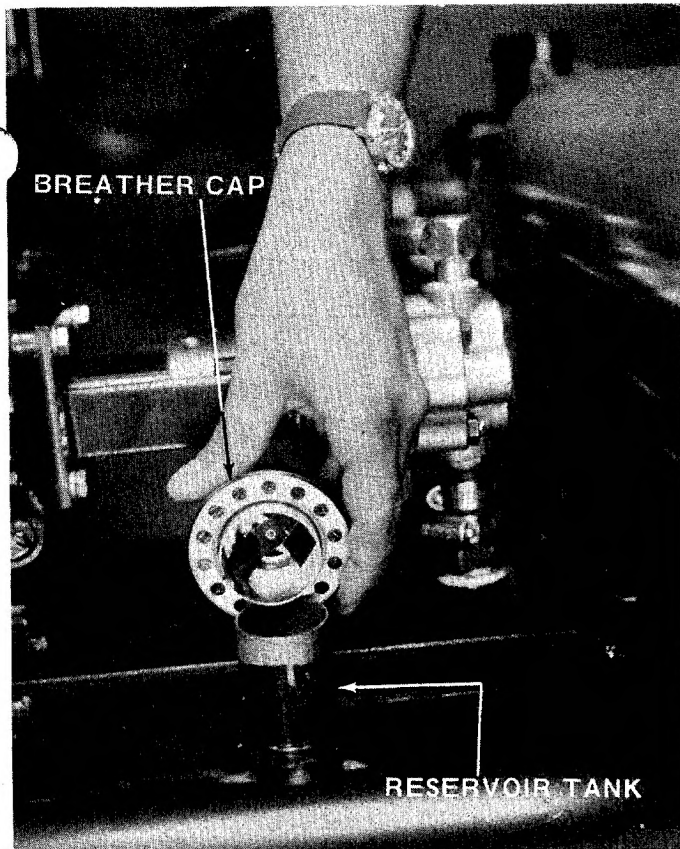

FIGURE 4
2. Remove the breather cap from reservoir tank. See figure 4.
This is to purge the hydraulic system of air. Continued operation will cause permanent damage to pump and cylinder. Stop engine and finish filling reservoir tank. It will take about 3 quarts of oil. See figure 4.
Clean breather cap when dirty. See figure 4.